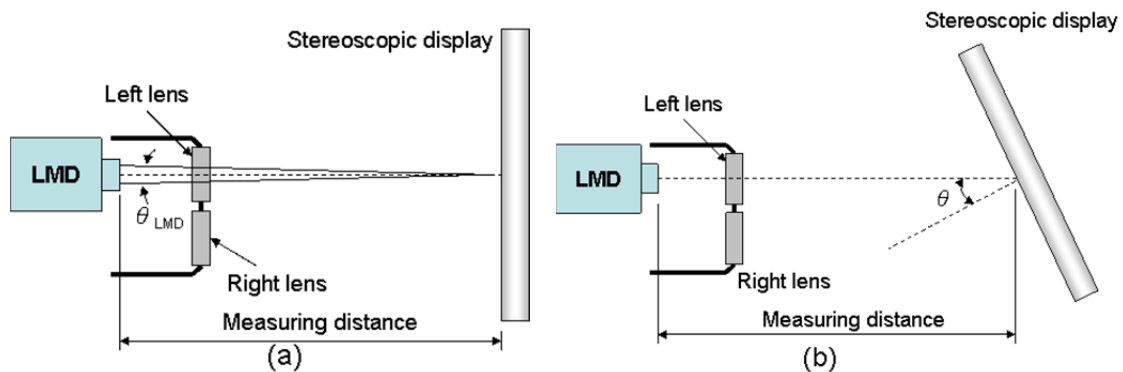

Figure 4
5.2.1 The measurement structure for testing the stereoscopic display with passive glasses in horizontal and vertical directions are shown in Figure 4 and Figure 5, respectively.
5.4.2 Put LMD along the normal line of the center of the screen at measuring distance. Then rotate the angle θ of stereoscopic display on the horizontal direction as shown in Figure 4. Then tilt the angle ϕ of the stereoscopic display on the vertical direction shown in Figure 5.